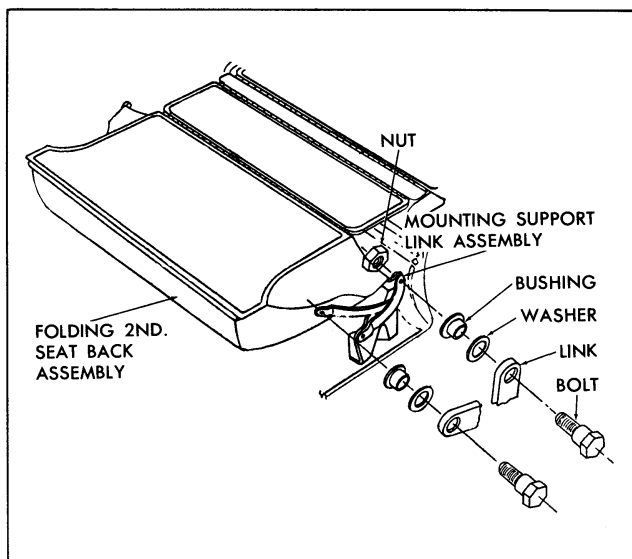

Fig. 8-4 Second Seat Support Link
4. Remove bolts securing right and left links to seat back (Fig. 8-4) and remove seat back with attached filler panel from body.
6. Remove bolts securing support links to seat back and remove support links from body (Fig. 8-4).
1. Fold rear panel forward until it rests on front panel (Fig. 8-4).
2. Remove screws securing hinge to both front and rear panels and remove hinge. (View A-A, Fig. 8-4).
1. On 35 style, use handle and fold rear luggage compartment panel forward until it rests entirely on front luggage compartment panel (Fig. 8-4).